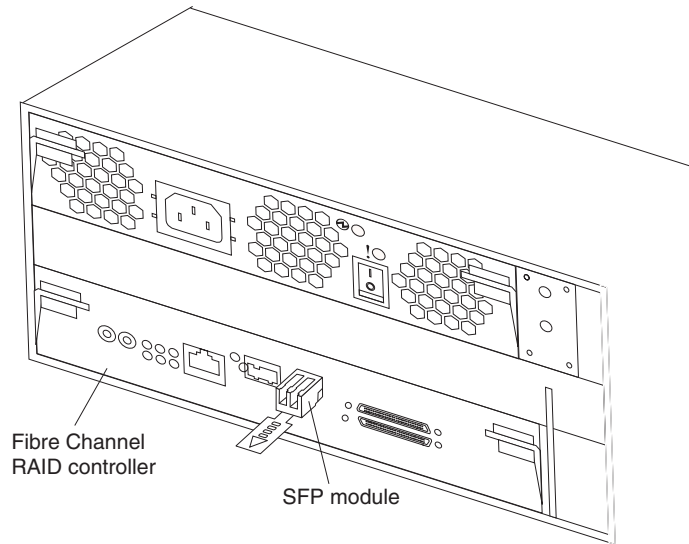

Figure 18. Installing an SFP module into the host connector
4. Rotate the SFP module so that the plastic or wire tab is on the bottom; then, insert it into the host connector until it clicks into place. See Figure 18 on page 23.